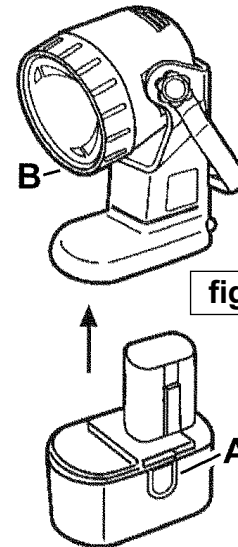

fig. 1
1. Remove the battery from the lantern by depressing the two latch buttons (fig. 1.A).
1. Unscrew the lens ring (fig. 1.B) and remove ring, lens and reflector as one.